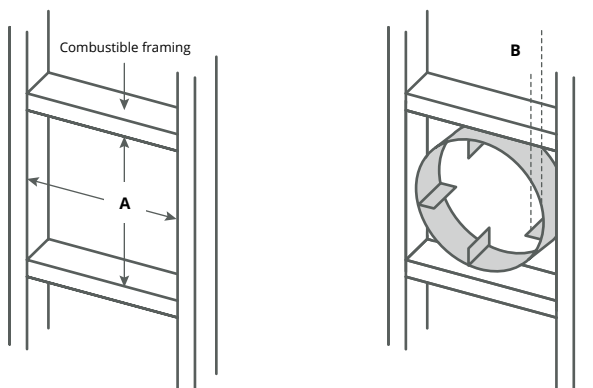

Figure 15.a Heat Shield Installation. (Install by sliding over vent pipe where it passes through the combustible construction).
- Vent runs must fall within the limits set by the venting graphs, see Figure 15.